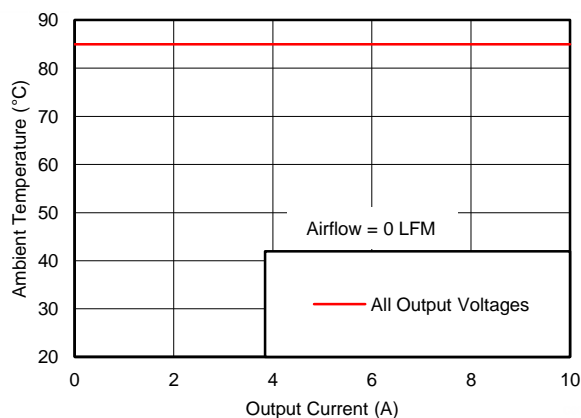

Figure 11. Safe Operating Area
- (2) The temperature derating curves represent the conditions at which internal components are at or below the manufacturer's maximum operating temperatures. Derating limits apply to devices soldered directly to a 100 mm × 100 mm double-sided PCB with 2 oz. copper. Applies to Figure 11.